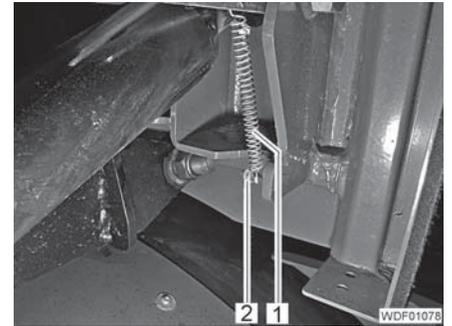

Fig. 340 Spring attachment
- Unscrew the nut (Fig. 340,2).
- Unhook the spring (Fig. 340,1).